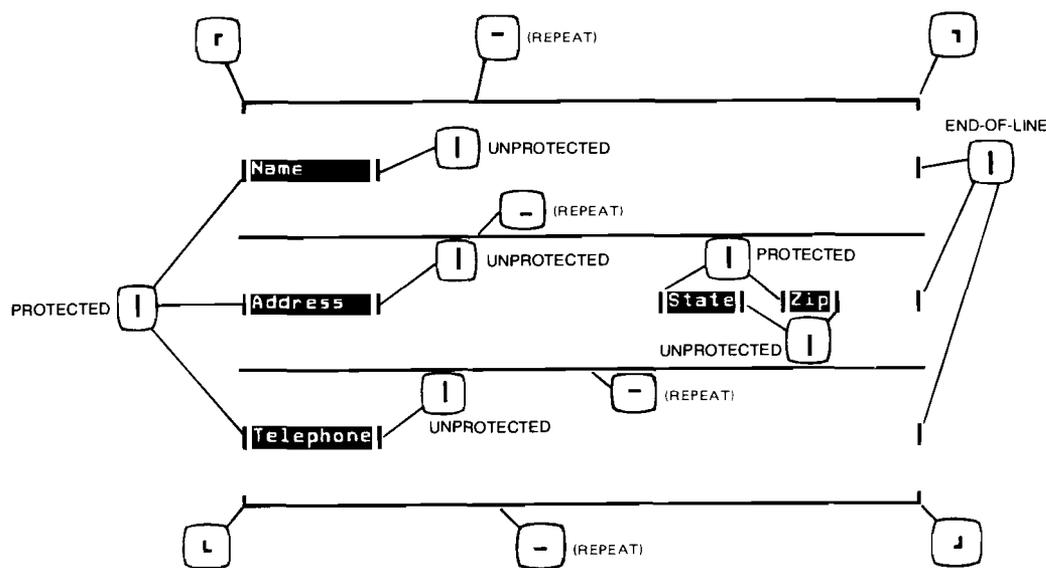

Figure A-5. Building a Form — Phase 1
- STEP 2. Starting at the top left of your form, proceed to build your form — from left to right — top to bottom. The soft key overlay will help you by giving the function of each key. Figure A-5 shows the details of building the sample form line-by-line during the first phase. The field headings (Name, Address, etc.) are "protected", and the fields to be filled by an operator are "unprotected".